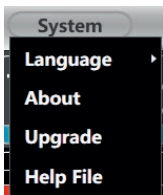

Figure 2.6
6.2.5 System (As shown in figure 2.6)